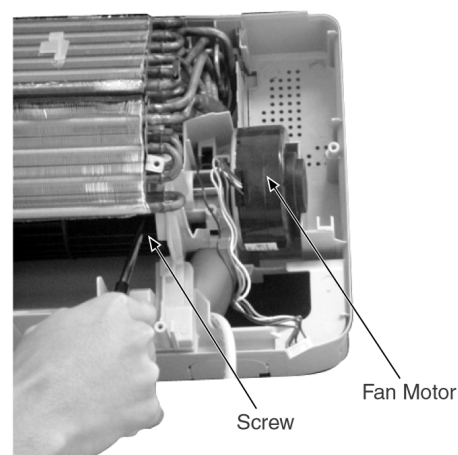

Fig. 8
5. Remove the screw at the Cross Flow Fan. (Fig. 8)
REMINDER - To reinstall the Fan Motor, put it back in place, adjust the position of the Fan Motor's leadwire appropriately as shown in the Fig. 8 0before installing the Cross Flow Fan.